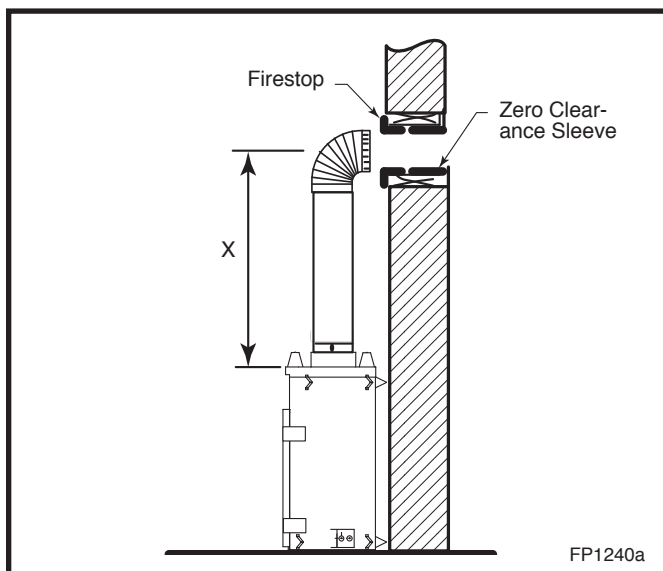

Fig. 23 Vertical height requirement.
Place fireplace into position. (Fig. 23) Measure the vertical height (X) required from the base of the flue collars to the center of the wall opening. **NOTE:** If using the SK8DVSK Kit, the vertical section of pipe is telescopic and could provide adjustment from 24" up to 40" (610mm to 1016mm).